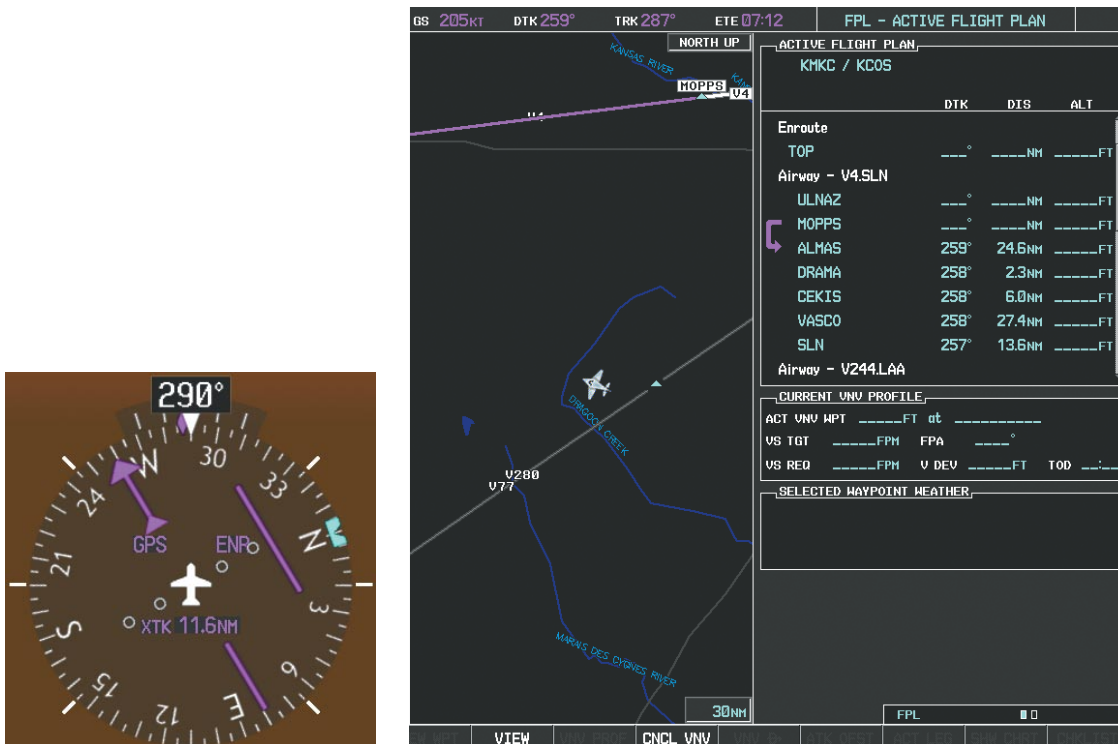

Figure 5-116 V4 Now Active Leg
- d) Verify the displayed leg is the desired leg and press the **ENT** Key. Note in Figure 5-116, the magenta arrow in the flight plan window and magenta line on the map indicating V4 is now the active flight plan leg. Note the phase of flight remained in Terminal (TERM) mode up to this point because a departure leg was active. Since a leg after the departure is now active, the current CDI flight phase is ENR (Enroute) and CDI scaling has changed to 2.0 nm.